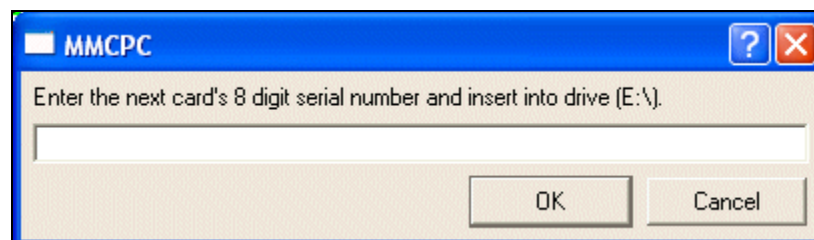

Fig. 66 — PC card window
2. A window is displayed that asks the user to enter the serial number of the first PC card (Fig. 66). Enter the serial number, insert this card into the PC card drive, and click OK. The PC card drive (e.g., drive E:) is pre-configured at MMCPC installation.